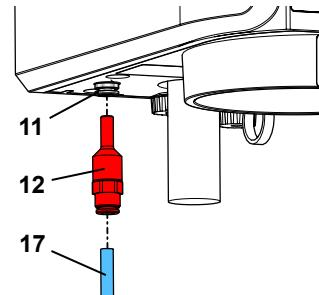

*Fig. 15-a*
**Inlet filter hidden, behind the compressed air connection (Fig. 15-b).**
- ⇒ Press the ring on the inlet filter (12) up and pull the compressed air hose (17) off.
- ⇒ Press the ring on the compressed air coupling (11) up and pull the inlet filter (12) off.